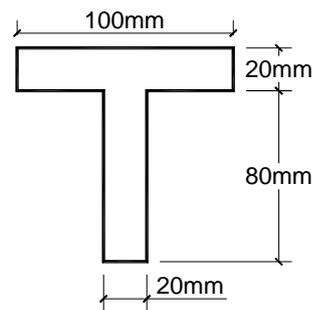

Fig. 9
- (c) A cast iron beam is of T section as shown in fig.9 The beam is simply supported on a span of 8m. The beam **07**
- (c) A simply supported beam of length 5m and Its cross section as shown in fig.9. is uniformly loaded with 20kN/m. Find values of shear stress at critical points and draw shear stress distribution diagram across the c/s. Take  $I = 3.14 \times 10^6 \text{ mm}^4$ . **07**